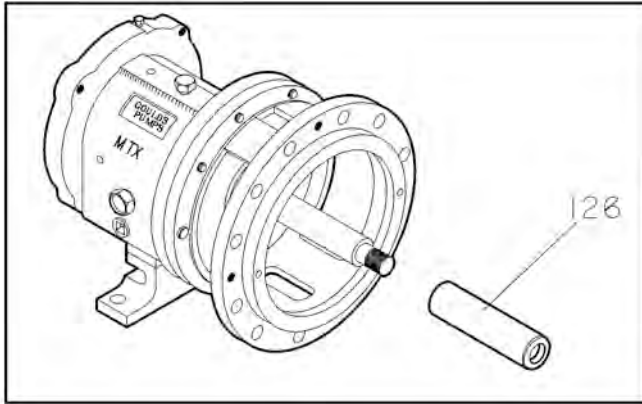

Figure 37:
4. Remove shaft sleeve (126) (Fig. 37).